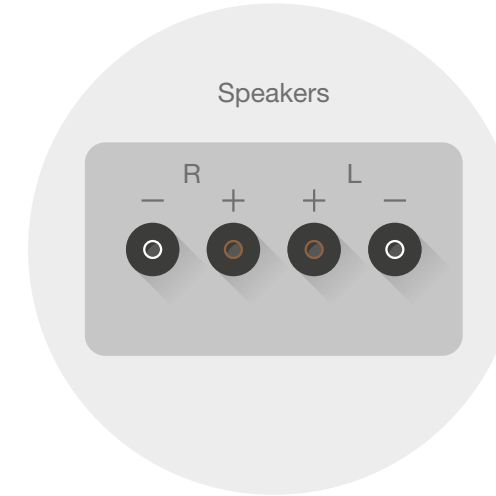

Fig. 2 - Amplifier loudspeaker outputs (example).
2. Connect the other cable ends to the loudspeaker outputs of your switched-off power amp (see Fig. 2).